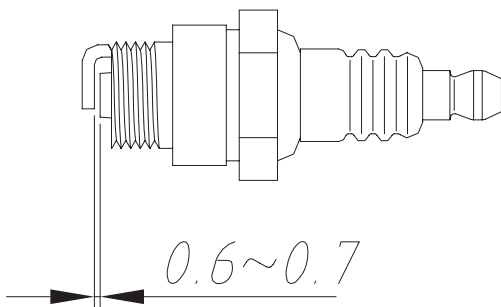

Fig 16
(2) Fuel system maintenance
(3) Air filter and plug.
- d. The plug model of this machine is 4106J. Do not use other models. If it is necessary for change, may buy it from local agricultural department or plant protection department. as shown in Fig.16.